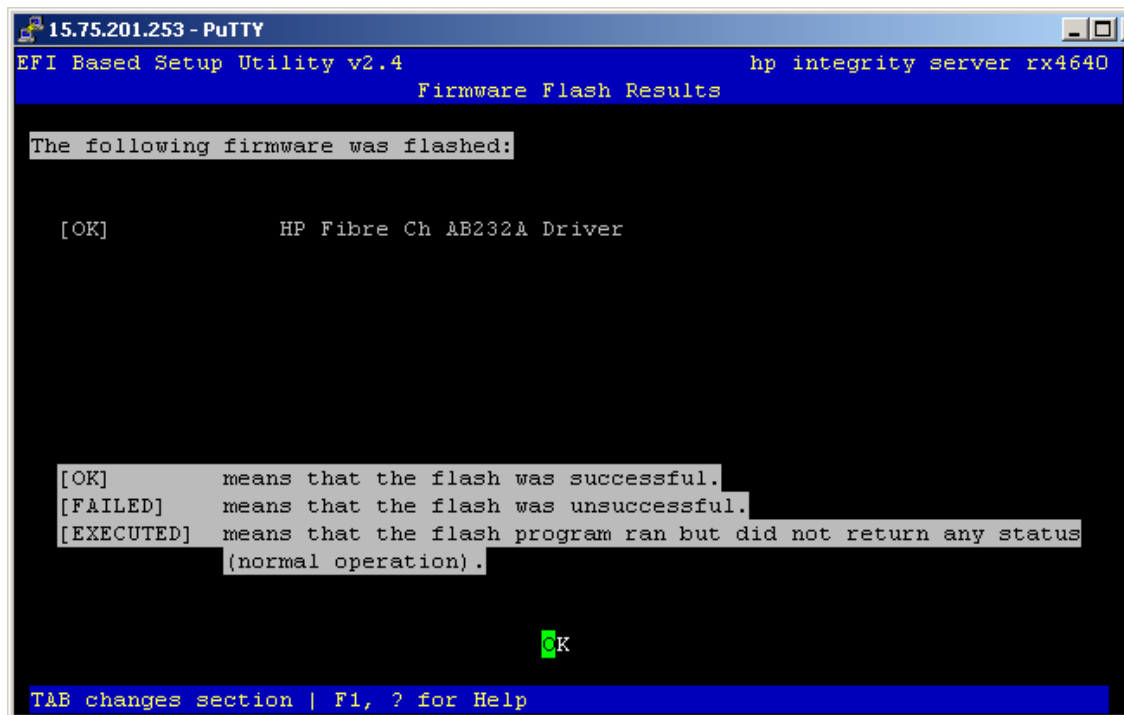

Figure 16: Firmware flash results
8. At the prompt, press **Tab** to the **Continue** entry, then press **Enter** to begin the flash. After the flash completes, the utility automatically reboots the server and starts the EBSU. The EBSU displays that the flash was successful as shown in Figure 16.